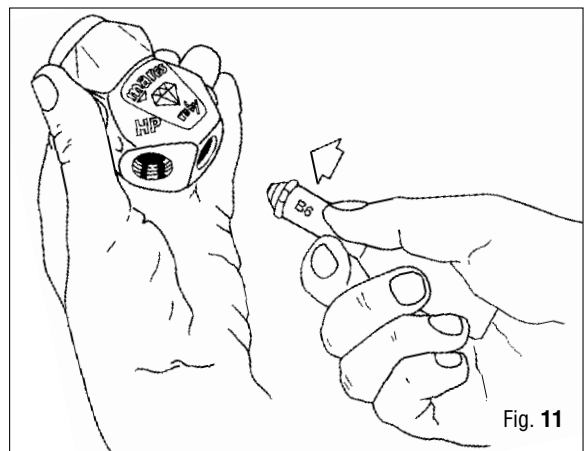

Fig. 11
13. Place properly the ruby poppet on the pin, using the special tool (B6) (Fig.11).
A SMALL PLASTIC ROD CAN BE USED FOR REASSEMBLING COMPONENTS (76+80) IN ORDER TO AVOID ANY DAMAGE. (FIG.11)